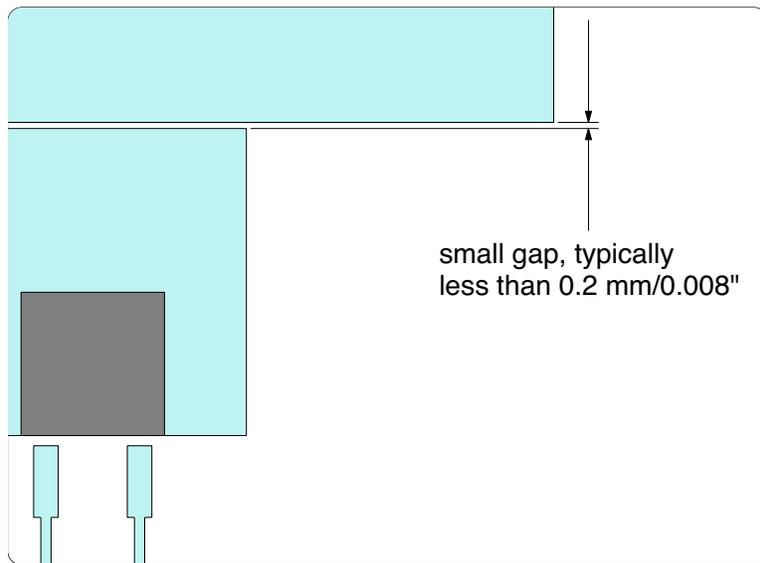

Figure 1: Configuration for "pad to pad" heat transfer
- when pads are separated by small gaps (typically less than 0.2 mm/0.008"), the "across gap" heat conduction through the FR4 and solder mask can impact temperatures (see Figure 1 on next page)